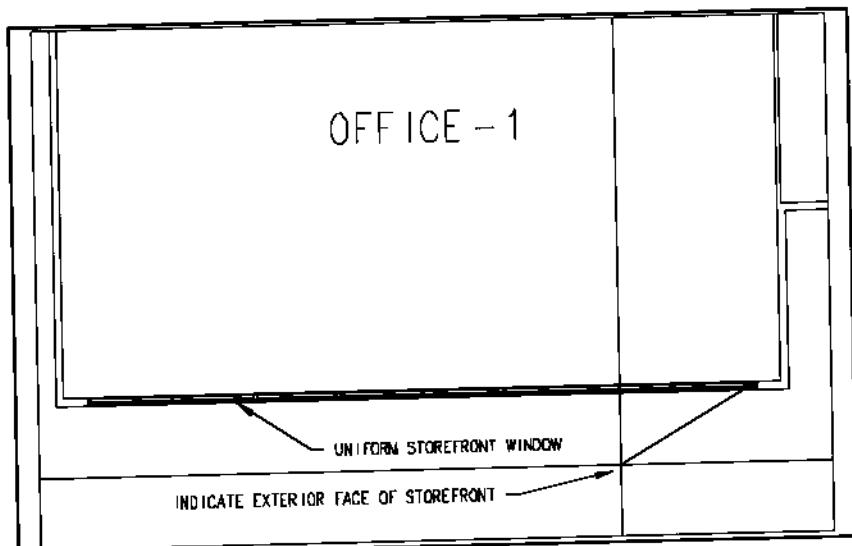

Figure 32.
- > Indicate EXTERIOR face of the storefront: **[select an area outside of the building below OFFICE-1 as shown in Figure 32]**